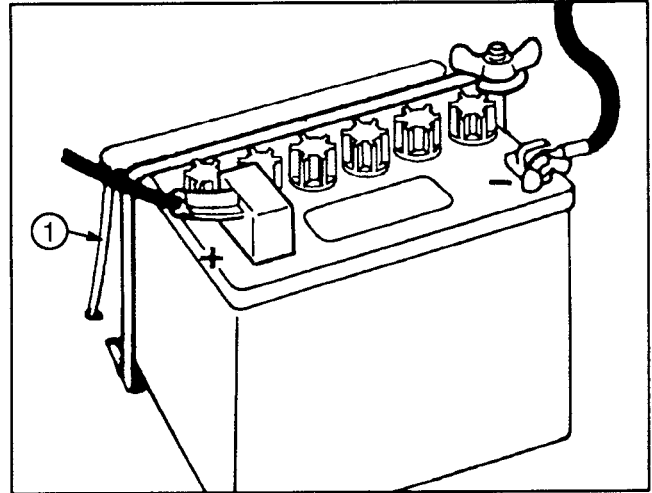

Figure 9
9. Install the battery with the terminal posts toward the rear of the machine and vent tube on left side of battery, through the hole in the frame (Fig. 9).
11. Install the red positive cable (rubber boot over end) to the positive (+) terminal and the negative cable (black) to the negative (-) terminal of the battery and secure them with capscrews and wing nuts. Slide the rubber boot over the positive terminal to prevent a possible short-out (Fig. 9).